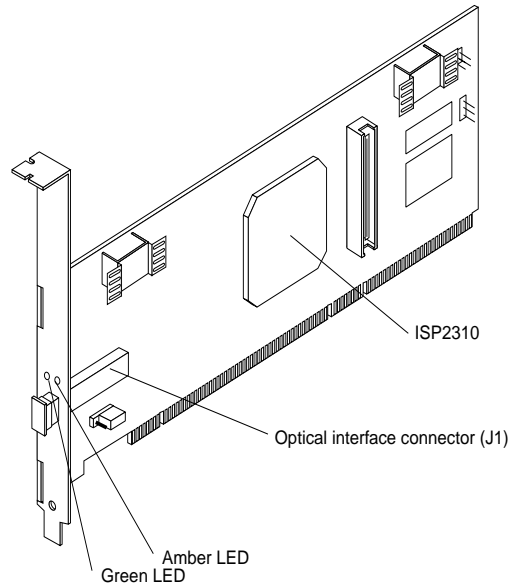

Figure 2. FAST FC-2 Adapter components
The IBM FAStT FC-2 Host Bus Adapter is a 2 Gb high-performance, direct memory access (DMA), bus master, Fibre Channel host adapter designed for high-end systems. The function and performance are derived from the ISP2310 chip (see Figure 2 on page 4), making this IBM FAStT FC-2 Host Bus Adapter a leading-edge host adapter.
Figure 2 on page 4 identifies the FAStT FC-2 Adapter (QLA2310) components that are referred to in this chapter.
The FAST FC-2 Adapter comes with an attached standard 3U adapter bracket as shown in Figure 2. An additional Low Profile 2U bracket also comes with the adapter. Before you install the FAST FC-2 Adapter, verify whether you need the Fibre Channel
8. Connect one end of an LC-LC Fibre Channel cable to the optical interface connector (located at J1) on the FAStT FC-2 Adapter. Connect the other end to a Fibre Channel device. (See Figure 2 on page 4 for the location of the J1 connector.)